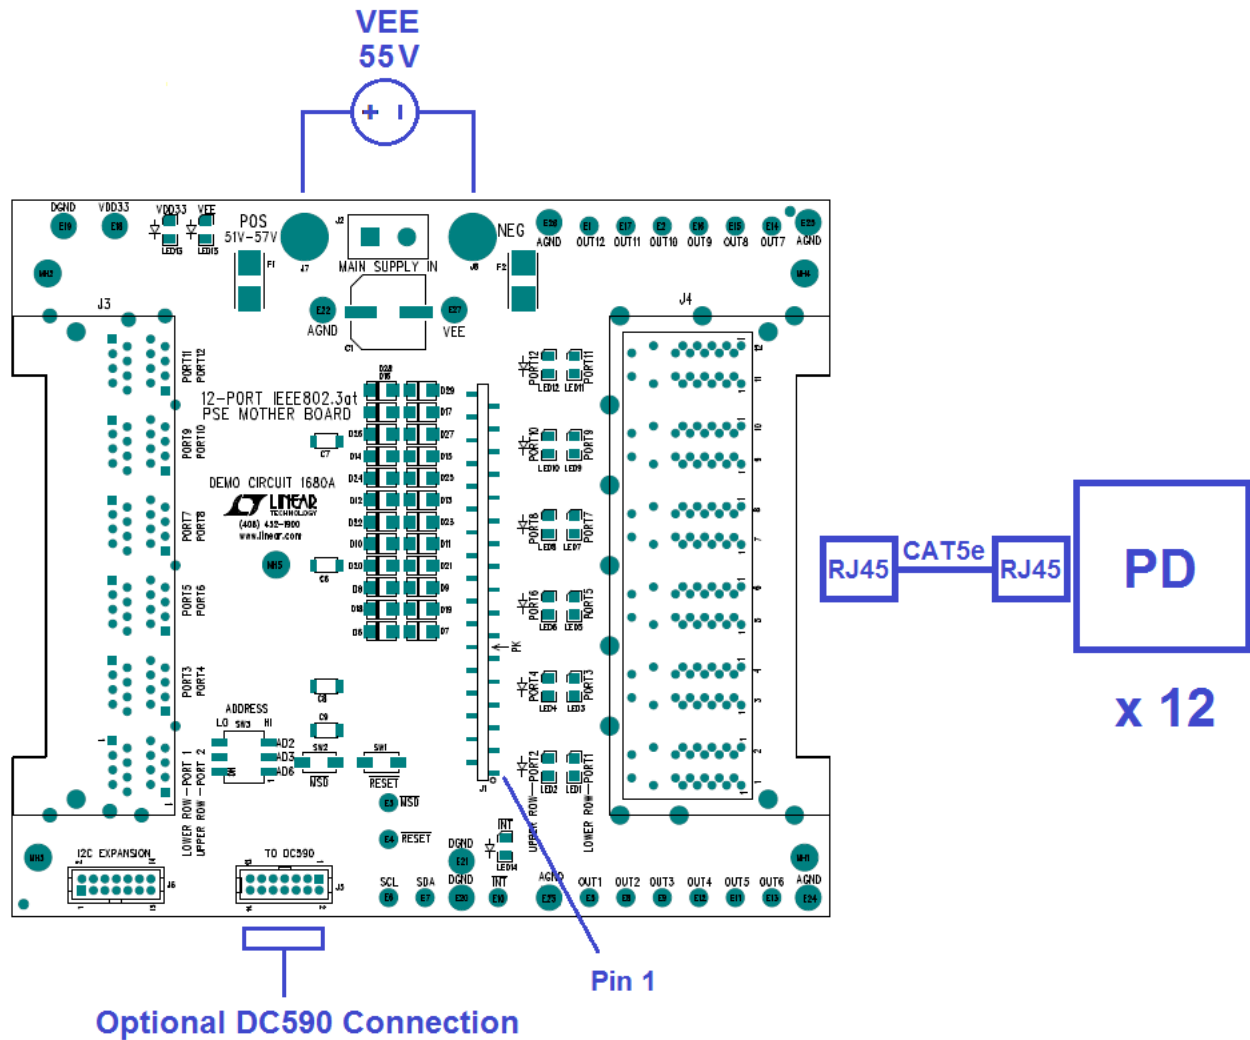
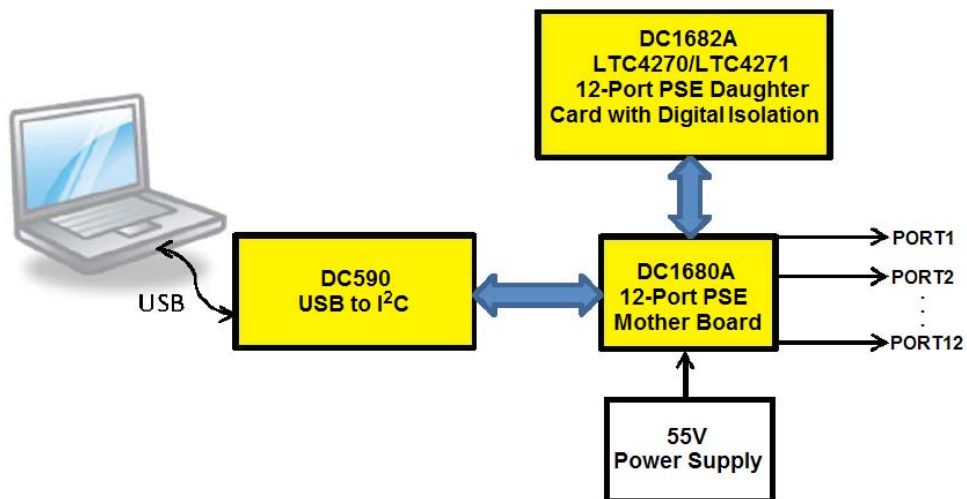

Figure 3. DC1680A Basic Setup
Figure 4. System Setup with the DC590, DC1680A, DC1682A and 55V Power Supply
4. On the DC1680A, connect a supply with the positive rail to POS and negative rail to NEG (Figure 3). Use a power supply capable of sourcing the maximum load expected ($12 \text{ ports} \times 850\text{mA} \geq 10.2\text{A}$). Ramp the supply up to 55V.
5. Connect up to 12 PDs to the DC1680A, J4 (Figure 3).
6. The DC590 is optionally connected to the DC1680A connector J5 with a 14-pin ribbon cable (Figure 3). A GUI for the LTC4270/LTC4271 is brought up by QuikEval for I²C interfacing from a PC (Figure 4).
Connect a power supply for V_{EE} with the positive rail to POS and negative rail to NEG as shown in Figure 3 of the Quick Start Procedure. Set the voltage within the range in Table 1 depending on whether the application is a Type 1 or Type 2. Choose a power supply rating and set the current limit high enough to provide power for the maximum number of PDs connected and to meet each PD power requirements.
PDs are connected using an Ethernet cable to any of the 12 ports at the 2×6, RJ45 connector J4 on the DC1680A (Figure 3). J4 has an integrated Ethernet transformer and common mode termination for each port. Test points for port outputs OUT1 through OUT12 are provided.